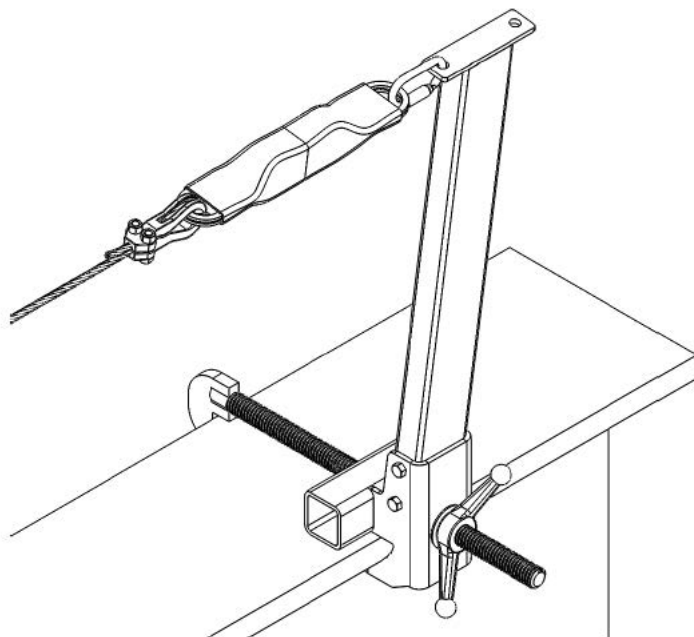

Figure 5
- (1) Position the clamp nut at the end of the threaded rod so the clamp can be opened fully.
- (2) Put the stanchion assembly in position so the top I-beam flange goes into the slot in the stanchion base.
- (3) Tighten the threaded rod with hook so the hook closes around the flange on the opposite side of the I-beam.
- (4) Hand-tighten the threaded clamp nut (Figure 5) on the stanchion base so the stanchion assembly is tight on the I-beam flanges.
- (5) Make sure that the I-beam flange touches the top and bottom of the slot in the stanchion base.
- (6) Make sure that the opposite side of the I-beam flange touches the top and bottom of the hook on the end of the threaded rod.
- (7) Tighten the threaded clamp nut until the Belleville washer is flat.
- (8) Push/pull on the stanchion assembly in all directions to make sure that it is attached tightly and does not move.